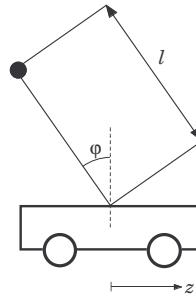

Figure 8.3 Inverted pendulum in exercise 8.5.
- 8.5** When walking, the body is kept in upright position by a regulatory system. This balancing of the body can be simplified to the problem of controlling an inverted pendulum positioned on a cart, by moving the cart. In Fig. 8.3, a schematic of this inverted pendulum is given.